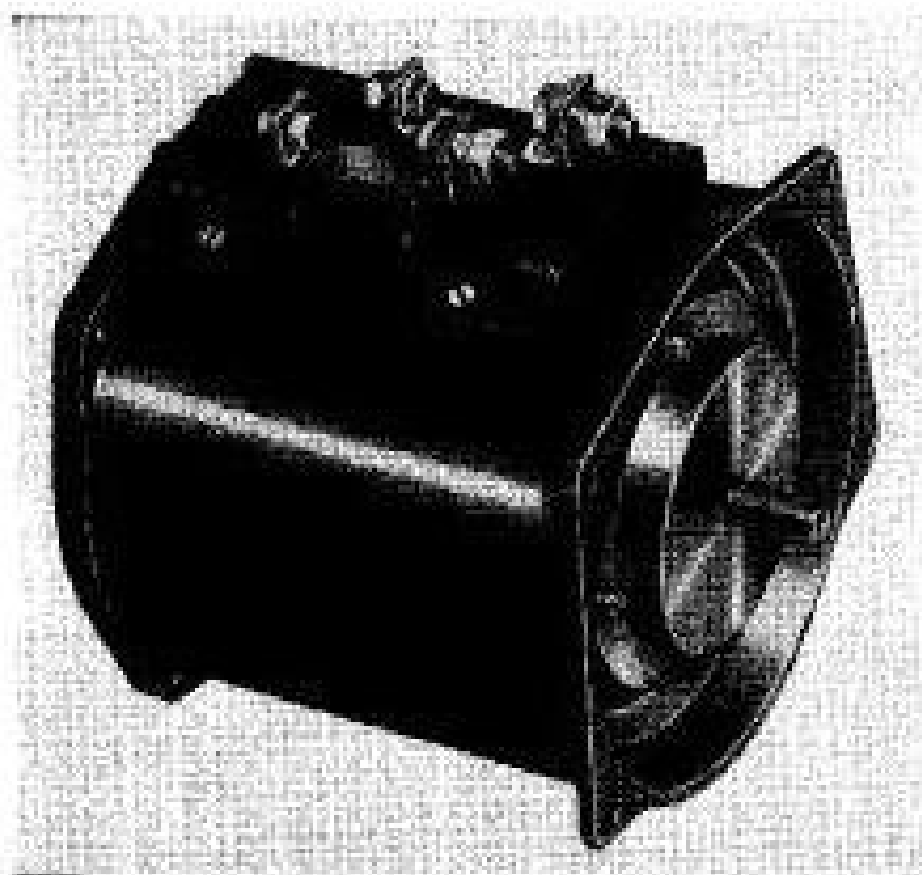
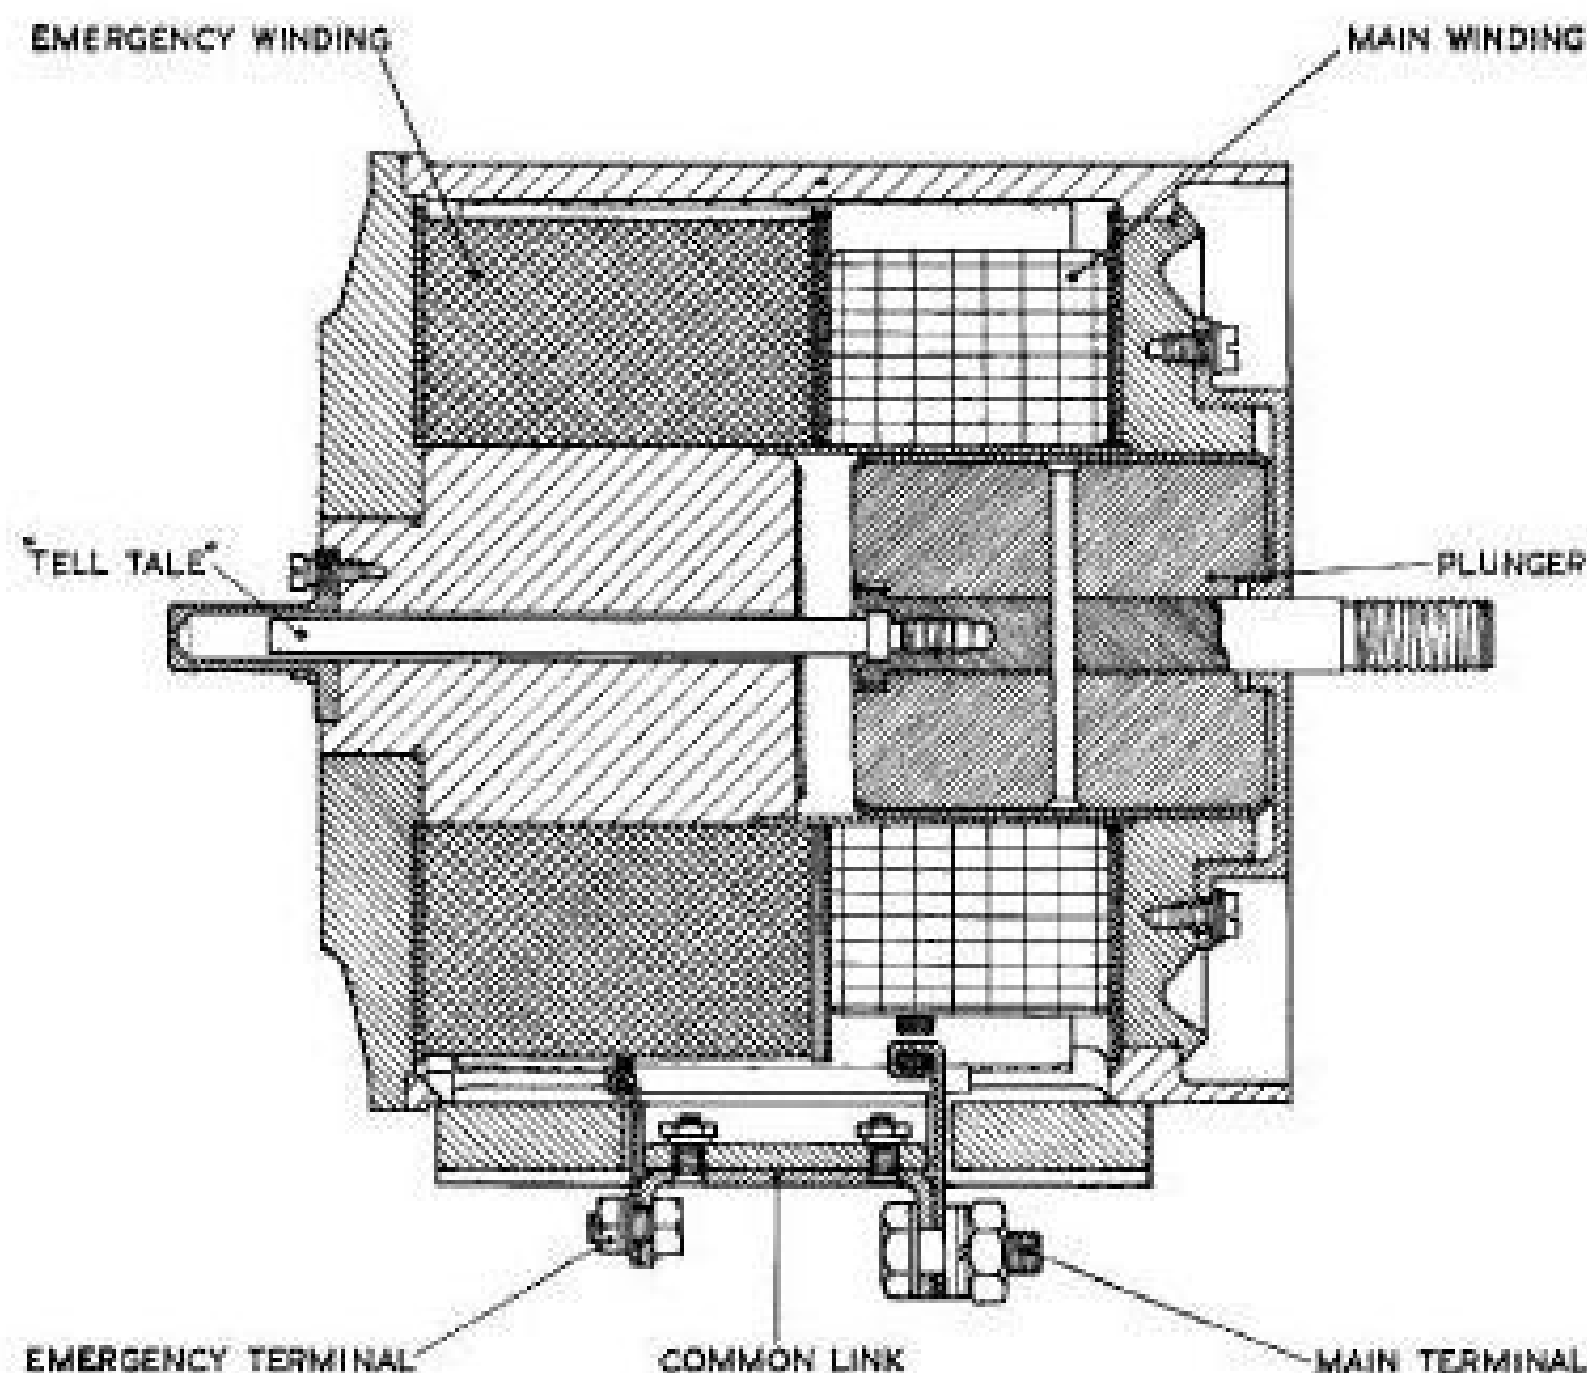

Fig. 1. Type D10901/1 solenoid unit
Fig. 2. Sectional view of unit
3. A general view of the unit is given in fig. 1. A laminated plunger, having a connecting shaft threaded $\frac{1}{8}$ in. B.S.P., slides in a bobbin tube, whilst a "tell-tale" spindle (fig. 2), which is fitted to the plunger, slides in an axial hole in a soft iron anvil. The anvil is fitted to an end plate and has the emergency coil wound around it. The main coil is wound around the bobbin tube. The solenoid is enclosed by a metal housing and a small cover receives the end of the "tell-tale" spindle.